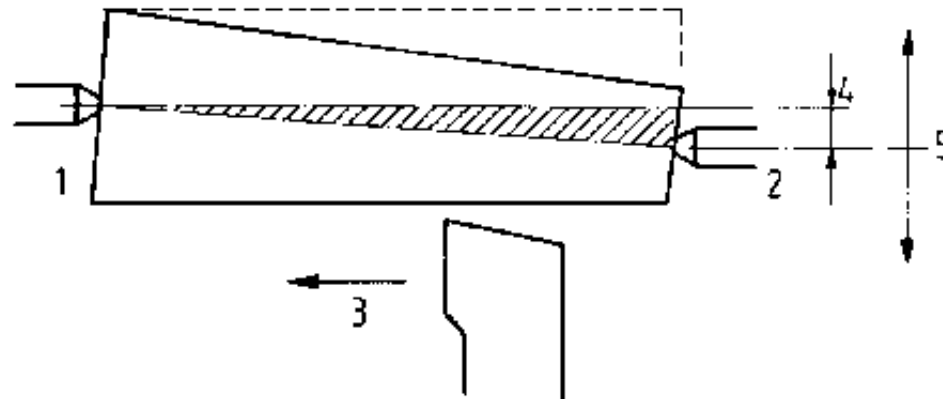

Figure 23 Aligning the tailstock
- When turning longer parts using the tailstock or steady rest as counter-support, the cylindricity of the part must always be checked. Misalignment of the steady rest or centre offset of the tailstock may result in eccentricity. In that case the tailstock is to be aligned as per Fig. 23.